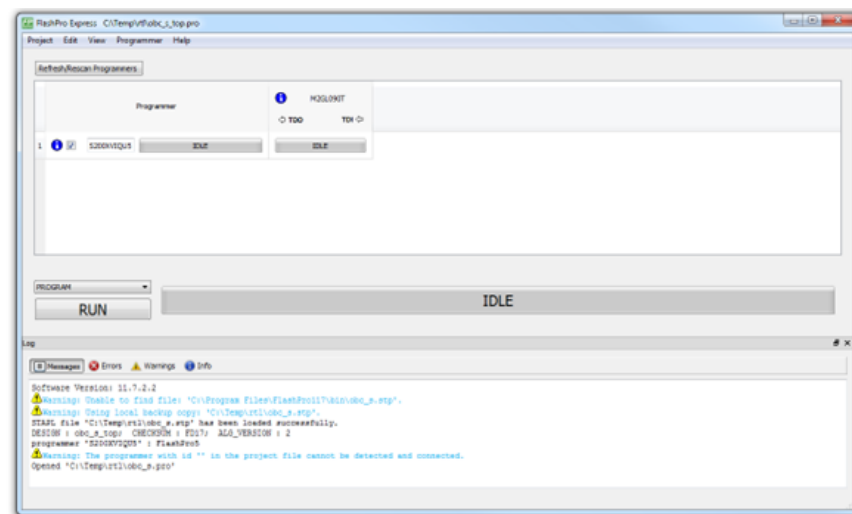

Figure 12.2 - View of FlashPro Express with project loaded.
5. Once the file has loaded (warnings might appear), click RUN (see Figure 12.2). Please note that the connected FlashPro5 programmed ID should be shown.